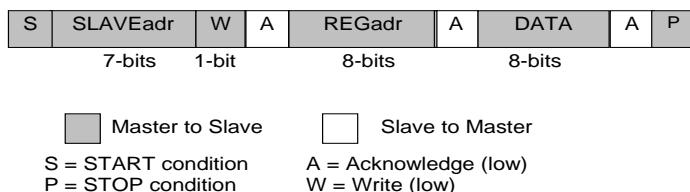
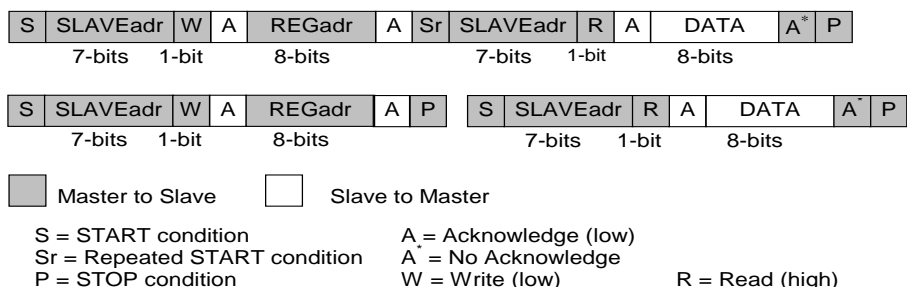

Figure 18: I²C Byte Write (SDA Line)
Figure 19: I²C Byte Read (SDA Line) Examples
The I²C bus is monitored for a valid slave address whenever the interface is enabled. It responds immediately when it receives its own slave address. The acknowledge is done by pulling the SDA line low during the following clock cycle (white blocks marked with A in Figure 18 and Figure 19).
The protocol for a register write from master to slave consists of a START condition, a slave address with read/write bit, and the eight-bit register address followed by eight bits of data, terminated by a STOP condition. DA9217 responds to all bytes with acknowledge (A), see Figure 18.
When the host reads data from a register it first has to write to DA9217 with the target register address and then read from DA9217 with a repeated START, or alternatively a second START, condition. After receiving the data, the host sends no acknowledge (A*) and terminates the transmission with a STOP condition, see Figure 19.